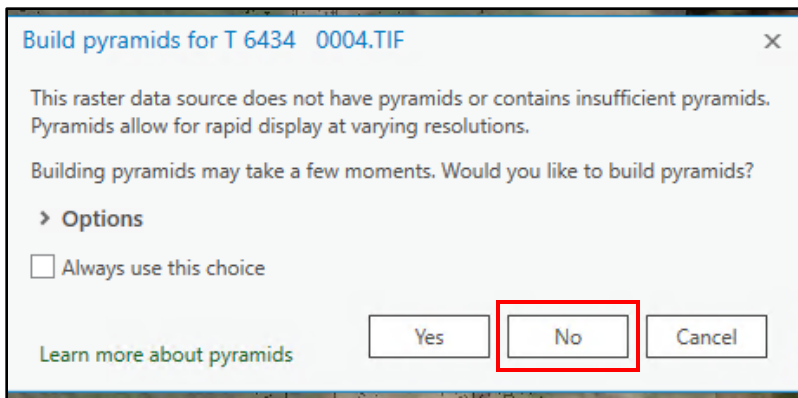

Figure 28. Option to build pyramids in ArcGIS Pro.
- If a pop-up screen appears suggesting to “build pyramids,” you can select “No” (Figure 28, below).